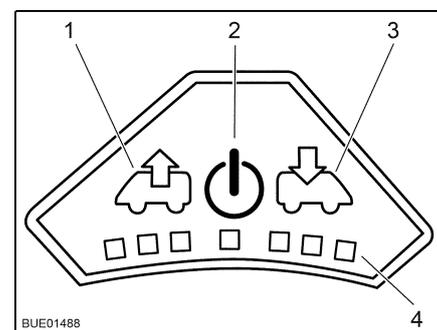

Fig. 120 Control panel for fan
- Press the On/Off button (Fig. 120,2). The fan runs in comfort mode (venting at slowest fan speed).
- To increase the fan speed: Press the Vent button (Fig. 120,1). The fan speed in the venting direction increases by one level. LEDs (Fig. 120,4) show the operating levels.
- To lower the fan speed: Press the Aerate button (Fig. 120,3). The fan speed decreases by one level.
- To increase the fan speed: Press the Aerate button (Fig. 120,3). The fan speed in the aerating direction increases by one step. LEDs (Fig. 120,4) show the operating levels.
- To lower the fan speed: Press the Vent button (Fig. 120,1). The fan speed decreases by one level.
- Press the On/Off button (Fig. 120,2). The fan stops, the LEDs go out.